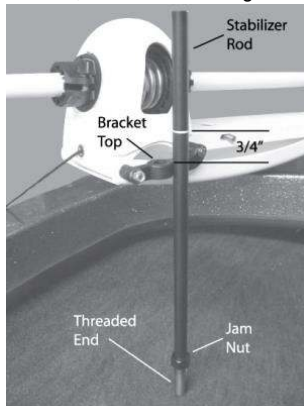

Fig. 2
9. Place motor mount in its stowed position. Pull Bottom Bumper off Stabilizer Rod. Place the Rod next to the Bracket as shown in the Photo. Place the threaded end down on the surface the Rod will rest on. Mark the Rod 3/4" inch above the top of the Bracket. See Fig. 2. Cut Rod to your mark. After cutting the Rod, round the cut edge with a file or sandpaper and reinstall the Bottom Bumper.